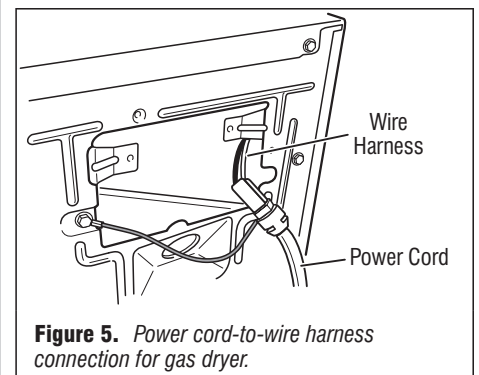
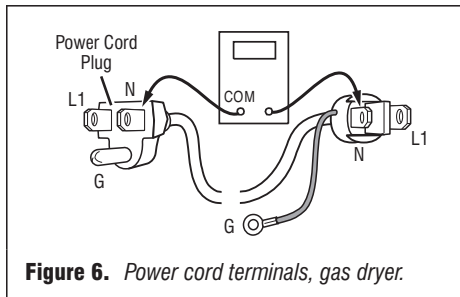

Figure 5. Power cord-to-wire harness connection for gas dryer.
Figure 6. Power cord terminals, gas dryer.
3. Check that the power cord is firmly connected to the dryer's wire harness. See figure 5.
5. With an ohmmeter, check for continuity between the neutral (N) terminal of the plug and P8-3 (white wire) on the machine control board. The left-hand side of figure 6 shows the position of the neutral terminal (N) on the power cord plug. Also see figure 18, page 10.
→ If there is no continuity, disconnect the white wire of the harness from the power cord at the location illustrated in figure 5, page 4. Test the continuity of the power cord neutral wire as illustrated in figure 6. If an open circuit is found, replace the power cord. Otherwise, go to step 6.
- If there is no continuity, check the continuity of the power cord in a similar way to that illustrated in figure 6, but for power cord's L1 wire.